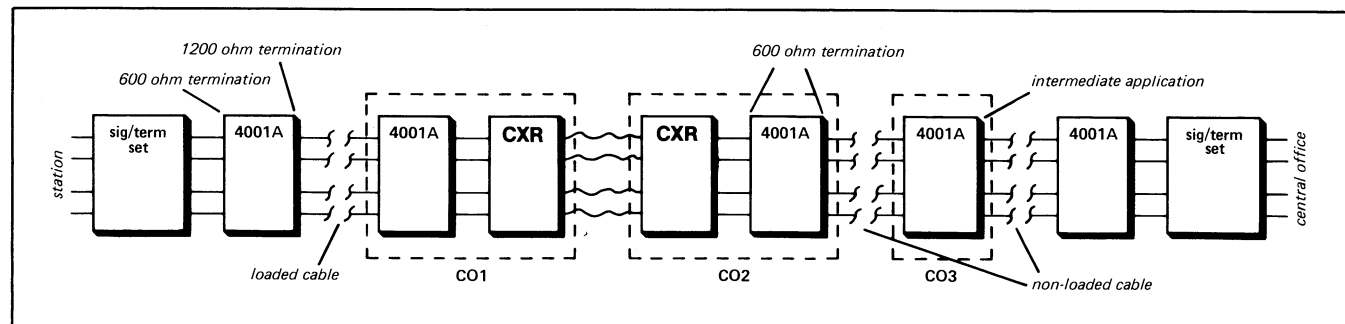

figure 3. Hypothetical circuit using 4001A Line Amplifier, showing terminal and intermediate applications and interfaces
2.02 In itself, the 4001A is equivalent to a 4wire-to-4wire (44V4) VF repeater. When paired with a Tellabs 4wire-to-2wire Terminating Set module (420X, 4942, or equivalent), a 2wire-to-4wire (24V4) repeater results. The 4001A can be used as either a terminal or an intermediate repeater (see figure 3).